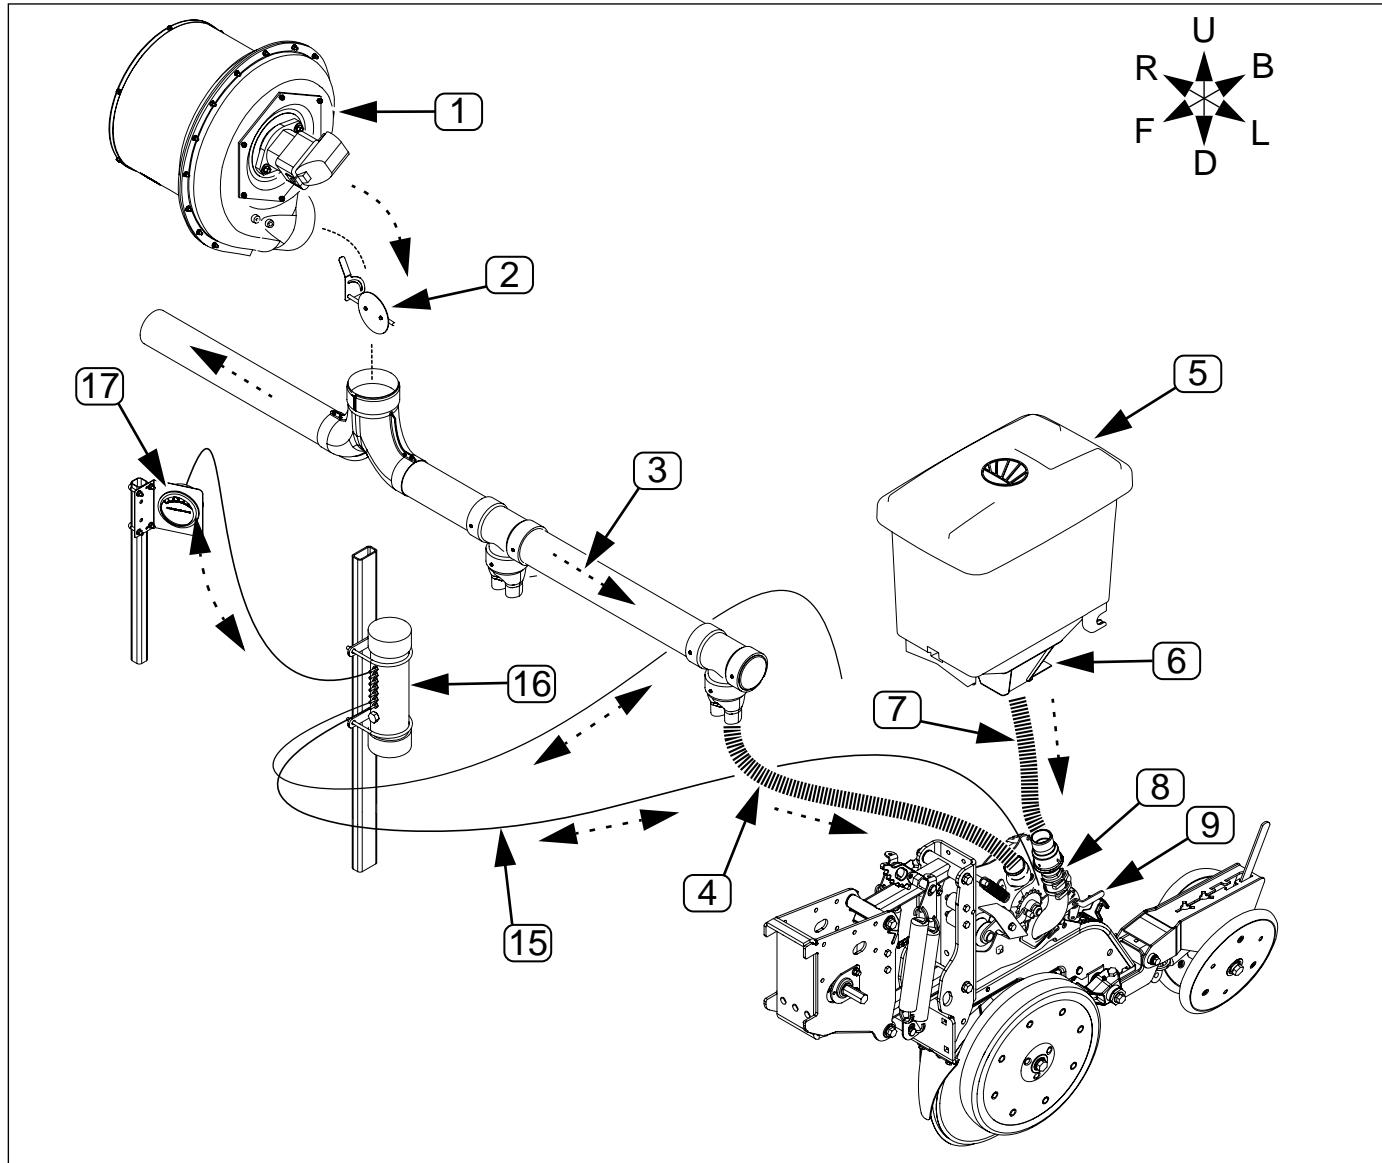
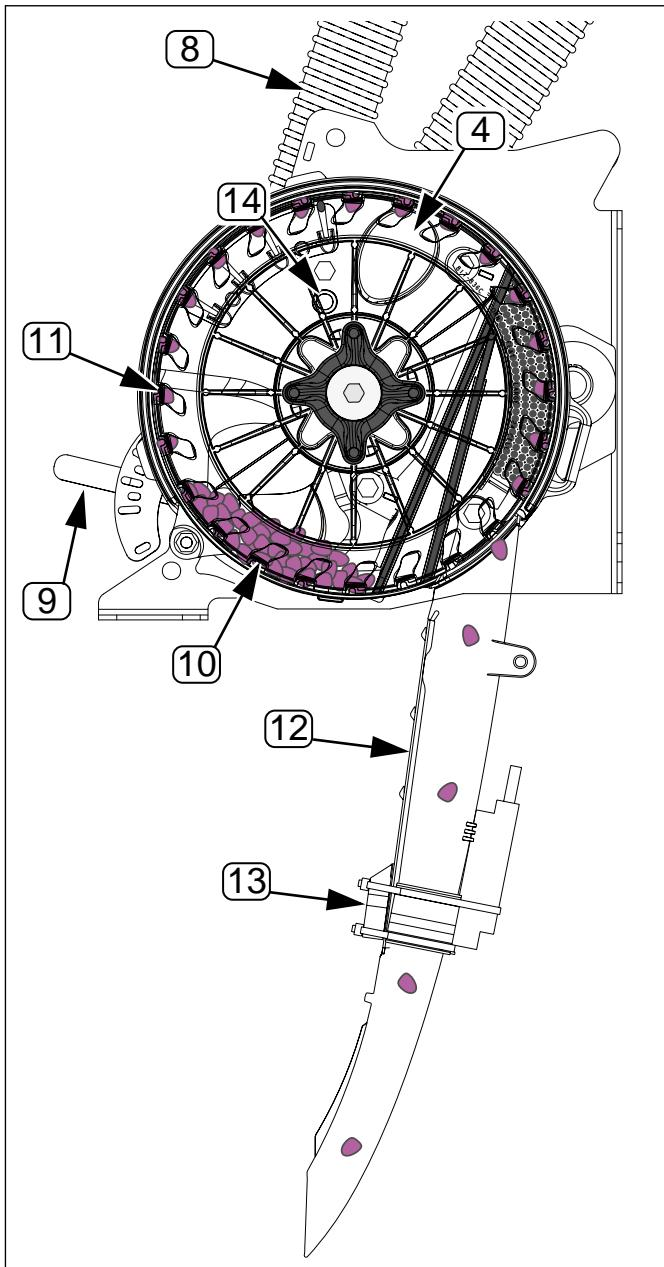

Figure 20
Figure 21
⑤ Seed Hopper	⑪ Disk Seed Pocket (Cell)	⑰ Magnehelic® Pressure Gauge
⑥ Slide Gate	⑫ Seed Hose (Figure 21)
Refer to Figure 20, on page 27, and Figure 21.